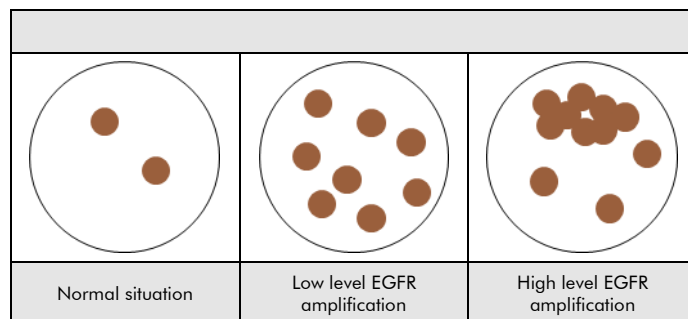

Fig. 2: Expected results in normal and aberrant nuclei
**Normal situation:** In interphases of normal cells or cells without an amplification involving the EGFR gene region, two distinct dot-shaped brown signals appear (see Fig. 2).
**Aberrant situation:** In cells with an amplification of the EGFR gene region or aneuploidy of chromosome 7, an increased number of brown signals or brown signal clusters will be observed (see Fig. 2).